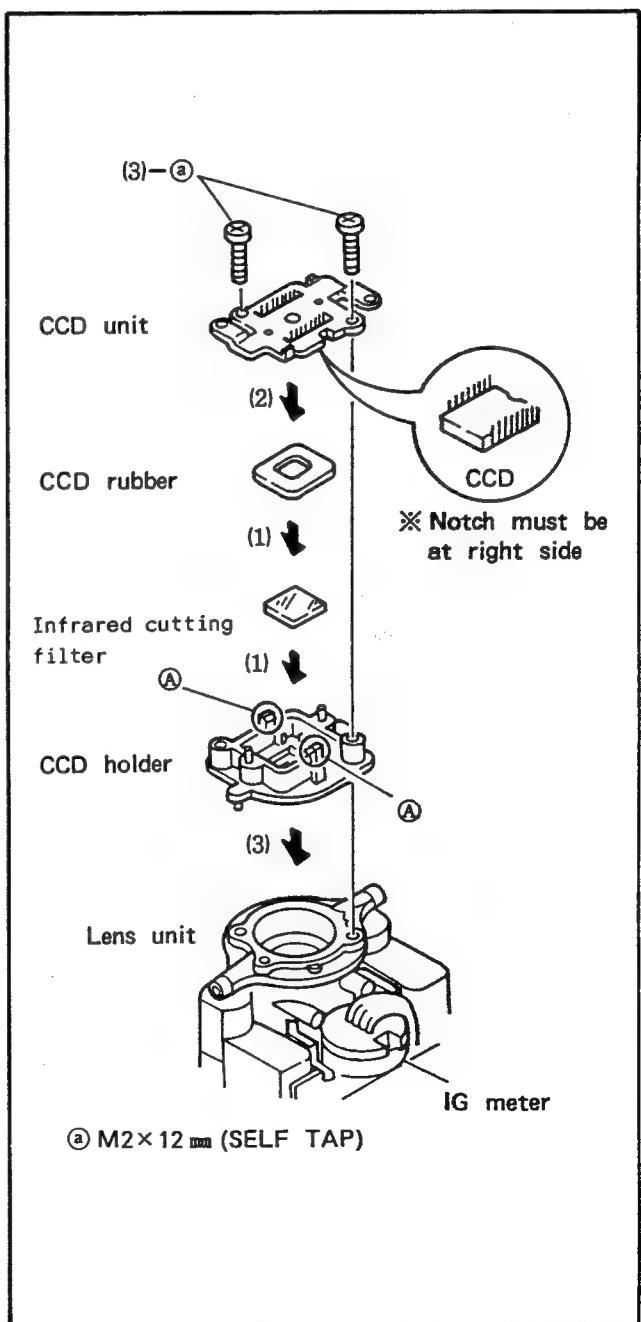

Fig. II-19
- (1) Install the infrared cutting filter and then the CCD rubber on the CCD holder.
- (2) Install the CCD unit on the CCD holder.
* Notes: 1. Check the directivity referring to the Fig. II-19.
2. Push the unit until the two hooks (A) are completely hooked.
- (3) Install the CCD holder on the lens unit, and fix it with two screw (a)s.
* Note: Check the directivity referring to the Fig. II-19.